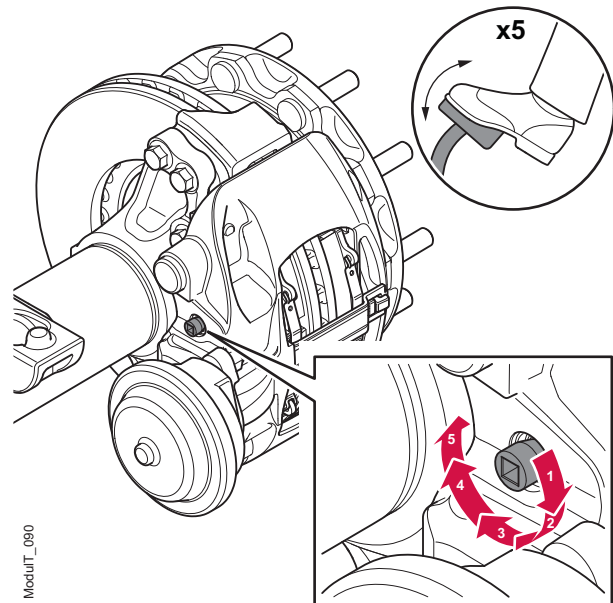

Figure 9. Brake actuation
5. Actuate the brakes 5 times by pressing and releasing the vehicles brake pedal through its full stroke. See figure 9. If no brake chamber is fitted then actuate the brake chamber lever manually with a suitable tool.